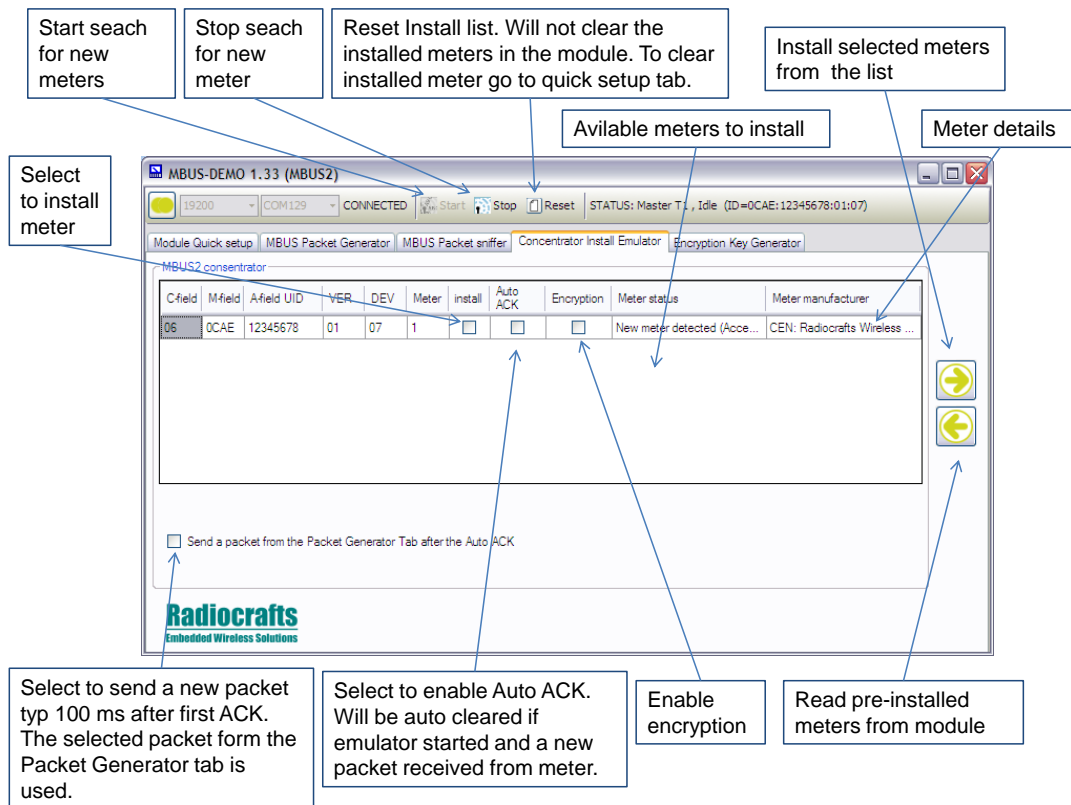

Figure 8. MBUS2 Concentrator Install Emulator
The Concentrator Install Emulator tab is a tool for installing and binding meters to the RC1180-MBUS module. The module will act as a Wireless M-Bus concentrator that only accepts installed meters. This tab is not in use for MBUS1 and different for MBUS2 and MBUS3. The user window for the Concentrator Install Emulator for MBUS2 is illustrated in figure 8.
6. Enable encryption in the Concentrator Install Emulator (see figure 8)